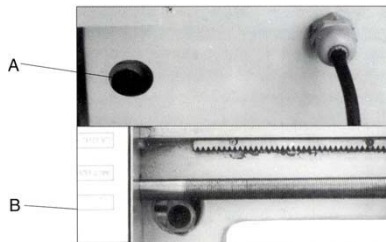

Fig. 9 Tailstock Rest Adjustment
When you are going to change position or replace the tailstock you need to loosen the nut as shown in (A) of Fig.9.